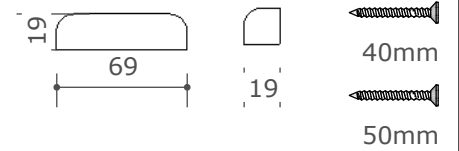

Fig3a. Bench Rails
- i. Bench end rails are fixed with 40mm screws (Pilot drill and countersink). See Fig 3a for heights. Use a spirit level to ensure the rail is straight before fixing to the wall.